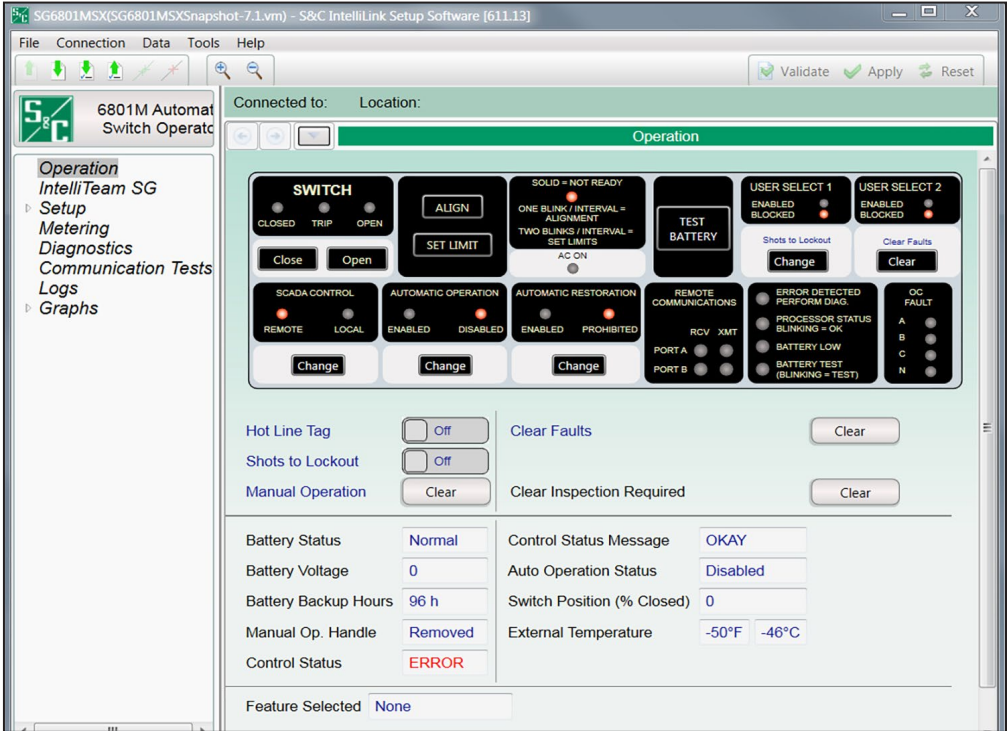

Figure 10. The 6801/2/3 Automatic Switch Control *Operation* screen.
**STEP 7.** When the login has completed, the *Operation* screen appears. See Figure 10.